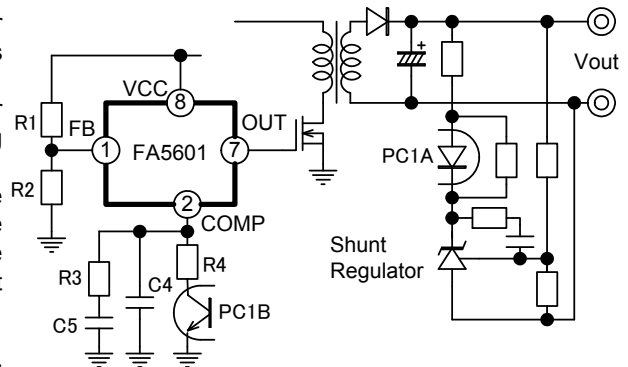

Fig.39 Example of feedback circuit
Fig.39 shows an example circuit using a photo-coupler for secondary-side feedback in an isolated circuit configuration such as an application circuit.
- [2] In this example circuit, the COMP pin is used for both phase compensation and output feedback and so C and R are connected to the photo-coupler as shown in Fig.39. If resistance R4 which restricts the photo-coupler is too large, control cannot be performed during light load. Usually 15kΩ or less is advised.